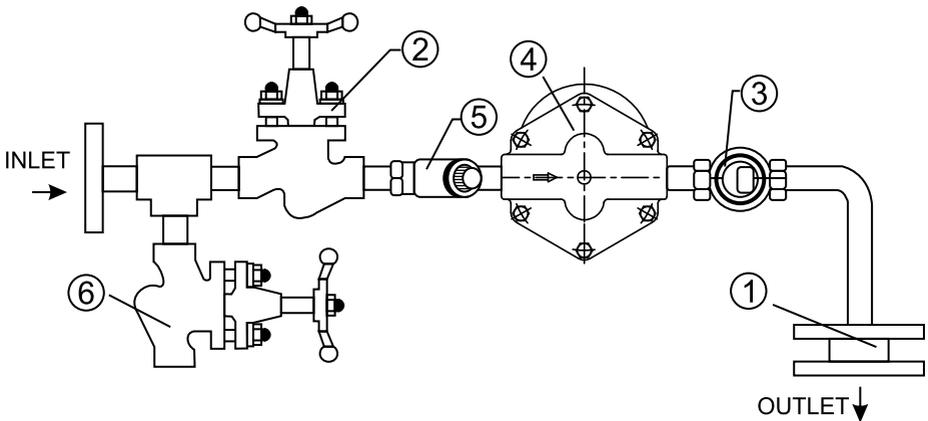

Figure 4 : Single Orifice Float trap module
5. Installation Guidelines :(Refer to Figure 4, 5 , and 6)
3. Ensure the availability of all components as shown in Figure 4, to ensure the operation of the trap.
6.1 Flushing of Lines : (Refer to Figure 4)
1. Close the stop valve (2) and open the bypass stop valve (6).
3. Now slowly close the bypass stop valve (6) and open the stop valve (2).
6.2 Commissioning : (Refer to Figure 4)